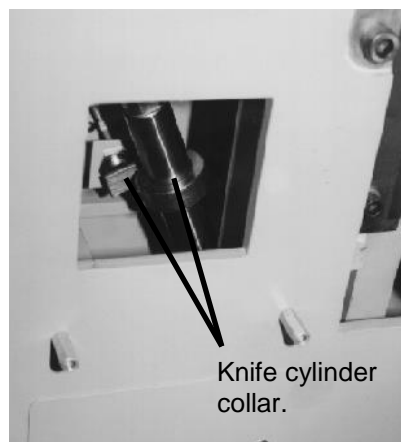

Figure 34
6. Loosen the setscrew on the collar mounted on the rod (Figure 34). Slide the collar down the shaft to the top of the cylinder. This collar is used to actuate the knife up and down proximity switches.